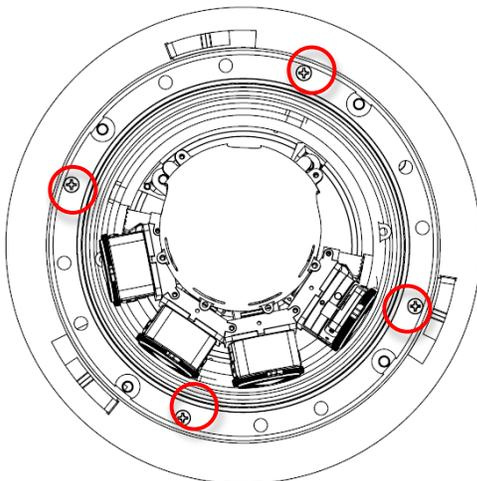
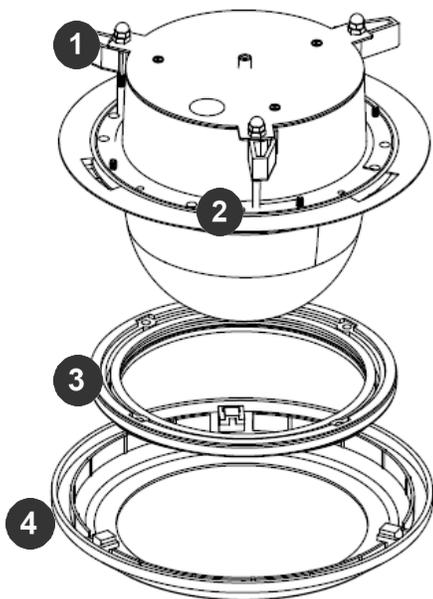

Figure 8: Attach Top Plate to in-ceiling mount with 3 set screws
Figure 9: Compress the mounting surface with lever screws
6. Screw the “lever screws” until the flush mount is snugly installed, as shown in Figure 8. The “Support Arm” will ride down the screw to compress the mounting surface (Figure 9).